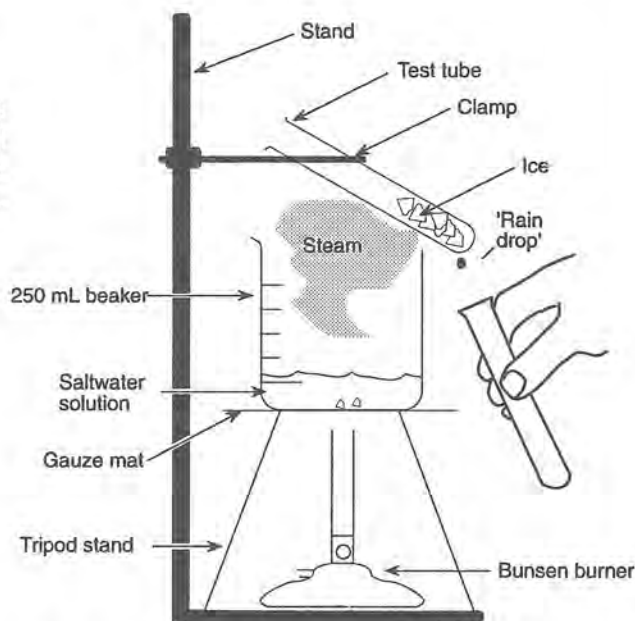

Fig 22 Experimental setup
Step 2. Now set up a bunsen burner, gauze mat and tripod stand and saltwater solution you made in the 250 mL beaker in Step 1 in Part A (see Figure 22).